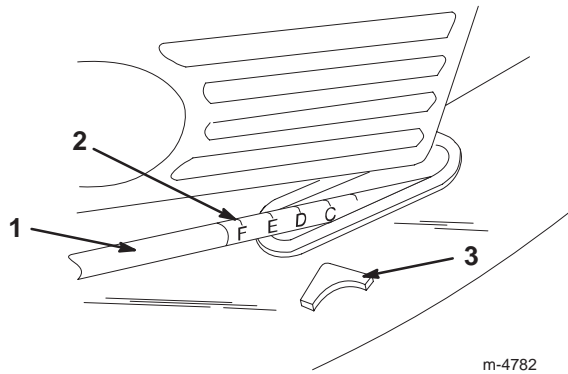

Figure 16
- Lift up or press down on the handle, and use the pointer and the cutting height setting on the link rod to set the lawn mower to the desired cutting height (Fig. 16).